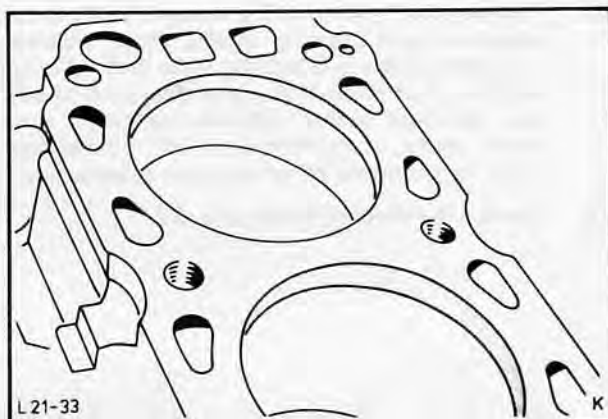

Fig. 84. Remove carbon deposits from cylinder head face
20. Set pistons at centre of their stroke and remove carbon deposits from cylinder head faces using a suitable scraper, Fig. 84, without touching piston bore.